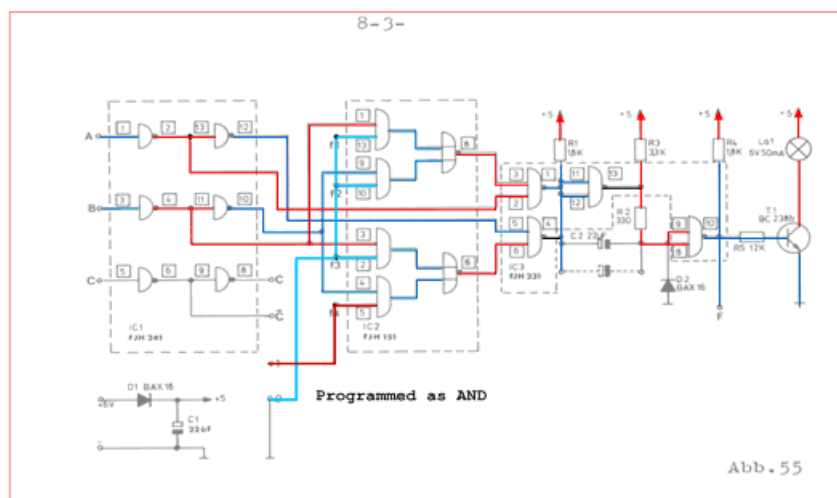

Figure 5
Figure 5 shows the situation where both inputs of the **AND** function are **FALSE (0)**. Using black colour at the output of the **NAND** gates signifies the fact that these are 'open collector' gates – if their logic value is 1, the voltage HIGH level is produced by a pull-up resistor. Notice that the output gate 1 is painted in blue – it pulls down the default **HIGH** level imposed by the resistor. This node effectively implements **OR**-behaviour: if neither of the **NAND** gates is activated, the pull-up is responsible for the output level. If either or both of the **NANDs** are active, the voltage is pulled to GND.